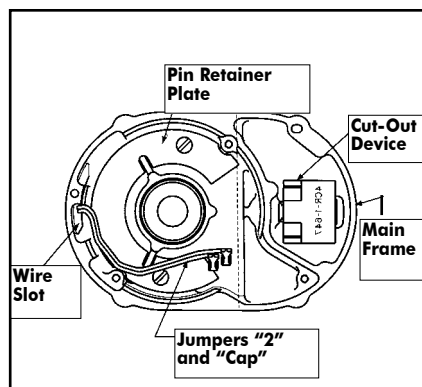
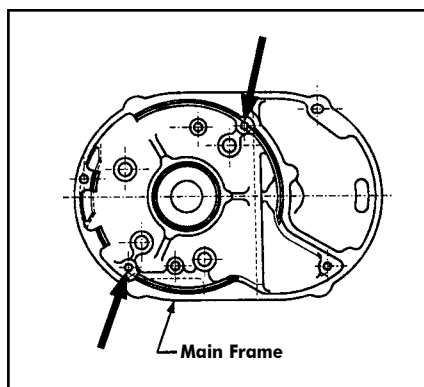

figure 12a
figure 12b
10. To install the stator, (Refer to Figure 12 A) and make sure that the pin retainer plate (620-125) has been assembled to the main frame (620-107). On single phase units slide jumpers "2" and "CAP" through the wire slot in the main frame. Route these wires around the rotor bearing boss in the main frame as shown in Figure 12A. Attach the brown and blue stator leads and "2" jumper to cut-out device (refer to wiring diagram). Slide the cut-out device into the cavity as shown. Push the cut-out device down until it sets on the main frame. Place the capacitor on top of the cut-out device and attach "CAP" jumper and the yellow stator lead to it. Reroute jumpers "2" and "CAP", if necessary to make sure they clear the rotor bearing boss as shown in Figure 12A. On all units slide stator leads through wire slot. Align the slots in the stator shell with the threaded holes in the main frame, as shown in Figure 12B. With the leads down, slide the stator into the main frame. Slide the rotor, large bearing first, into stator. Place the rotor thrust washer (620-104) on top of the exposed rotor bearing and then assemble the motor end cover (620-105) to the main frame. Using wiring diagram, complete the wiring at the brake end of the unit.